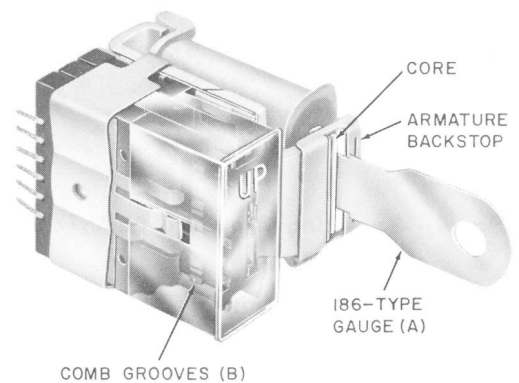

Fig. 3—Measuring Armature Travel With 186-Type Gauge
2.04 Armature Travel [Fig. 3(A)]: With the relay electrically operated, the armature travel measured at the gap between the armature backstop and the core shall not exceed 0.002 inch from the value (0.025) nor exceed 0.003 inch from the value (0.026, 0.036, or 0.042 inch) specified in the ARM TRVL column of the circuit requirements table.
[Fig. 3(B)]: The twin springs of movable pair shall be in the respective comb grooves associated with the position on the relay in which the springs are mounted.